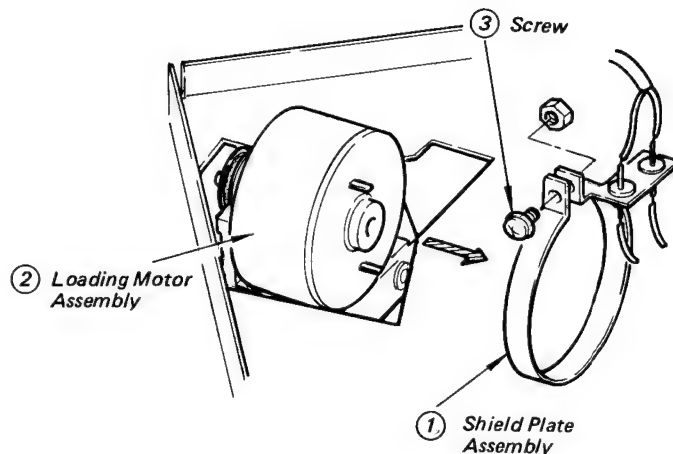

Fig. 5-23 Shielding Plate Assembly Removal
### 7-5. Replacing the loading drive assembly (see Figs. 5-23, 5-24 and 5-25)
2. Unsolder the lead wires of the shield plate assembly ① at the terminals on the loading motor assembly ②.
3. Loosen the screw ③ and take out the shielding plate assembly ① away from the motor (see Fig. 5-23).